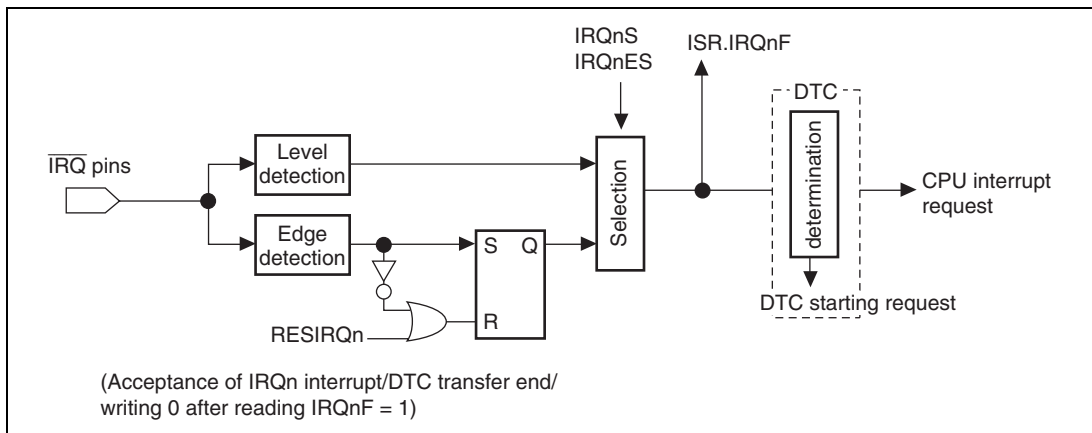

**Figure 6.2 Block Diagram of IRQ7 to IRQ0 Interrupts Control**
In IRQ interrupt exception processing, the interrupt mask bits (I3 to I0) of the status register (SR) are set to the priority level value of the accepted IRQ interrupt. Figure 6.2 shows the block diagram of this IRQ7 to IRQ0 interrupts.